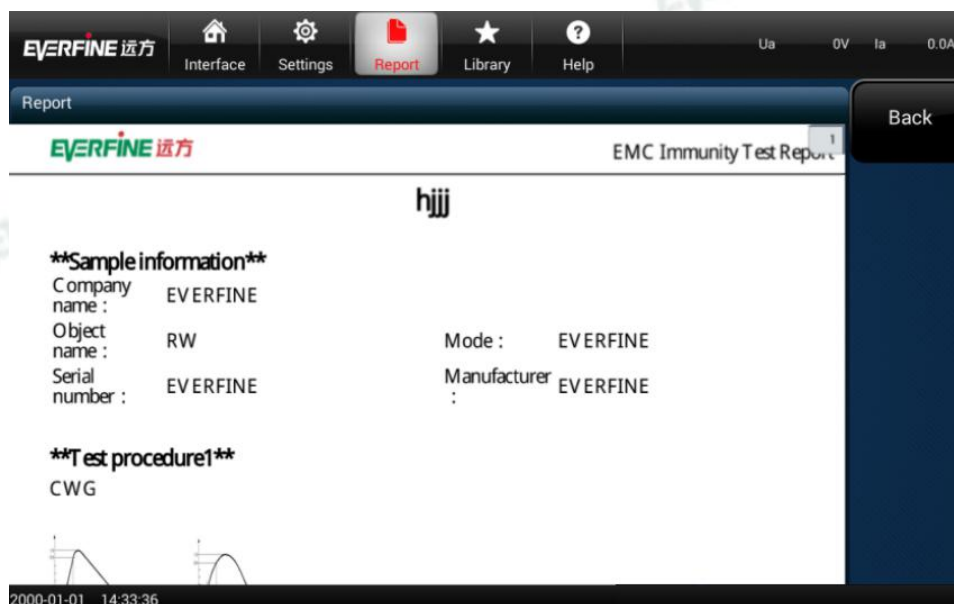
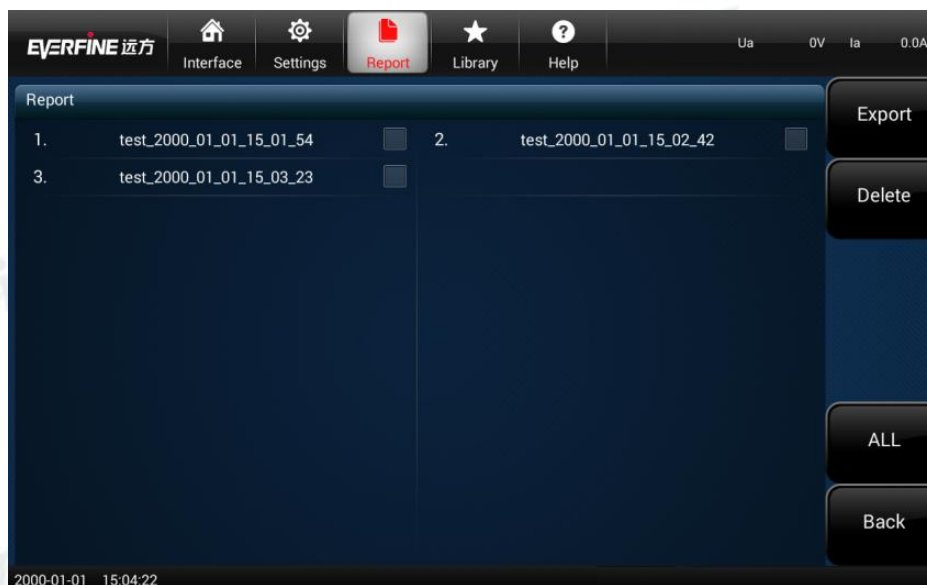

Fig 4.8 Test report preview interface
Fig4.9 Test report check screen
| ③ "Edit" button | The preview interface is shown in Fig 4.9; |
The preview interface of the test report is shown in Fig 4.8. Relevant parameters of the test report can be previewed by swiping up and down on the touch screen.
Press the report name in Fig4.8 long enough to enter the check interface as shown in Fig 4.9. The report can be exported or deleted by check operation.